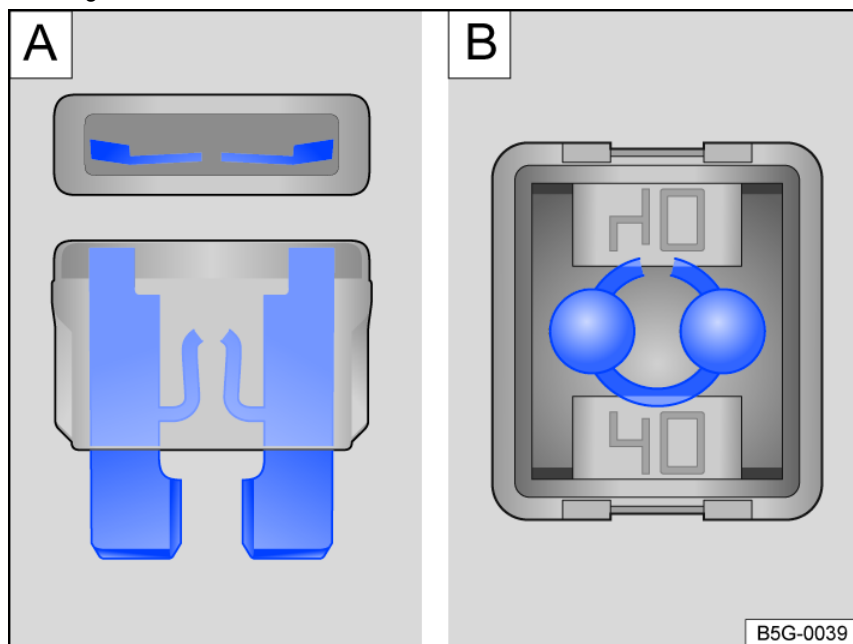

Fig. 177 Blown fuse (general example).
- A blown *flat connector fuse* (ATO®, MINI®) has metal strips that have burned through, which you can see through the transparent housing from above and from the side [fig. 177 \[A\]](#).
- A blown *block fuse* (JCASE®) is recognizable by the melted metal strip seen through the transparent housing from above [fig. 177 \[B\]](#).